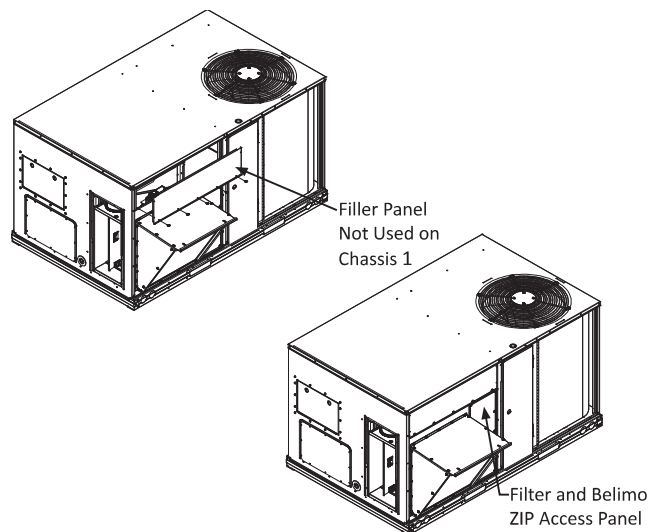

Fig. 11 - Installation of OA Hood, Filler Panel, and Filter Access
12. If needed, attach Filler Panel - **Not used on Chassis 1**. Slide panel under RTU Top Rain Faring, then drop down until holes along the bottom line up. Attach with provided #10 screws - See **Fig. 11**.
13. Attach the OA Hood with the provided #10 screws - See **Fig. 11**.